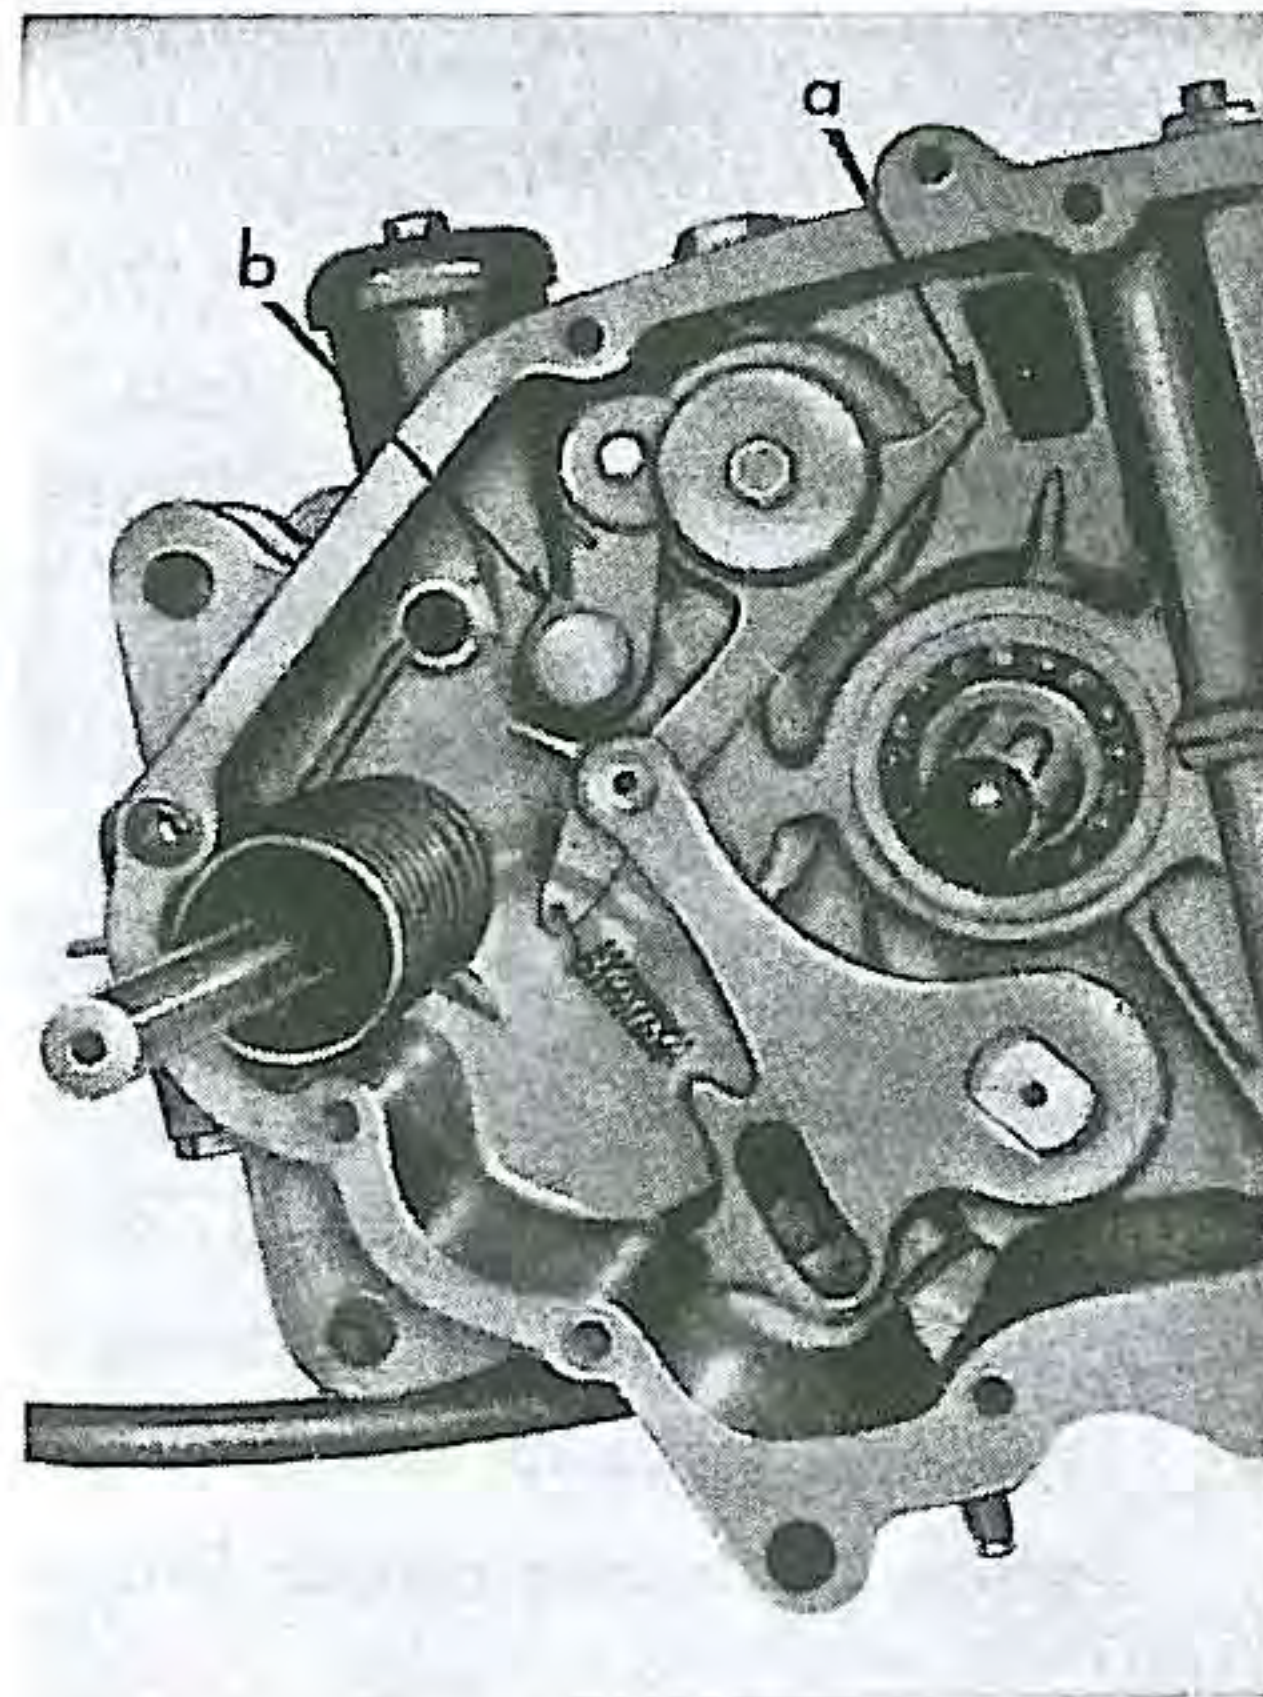
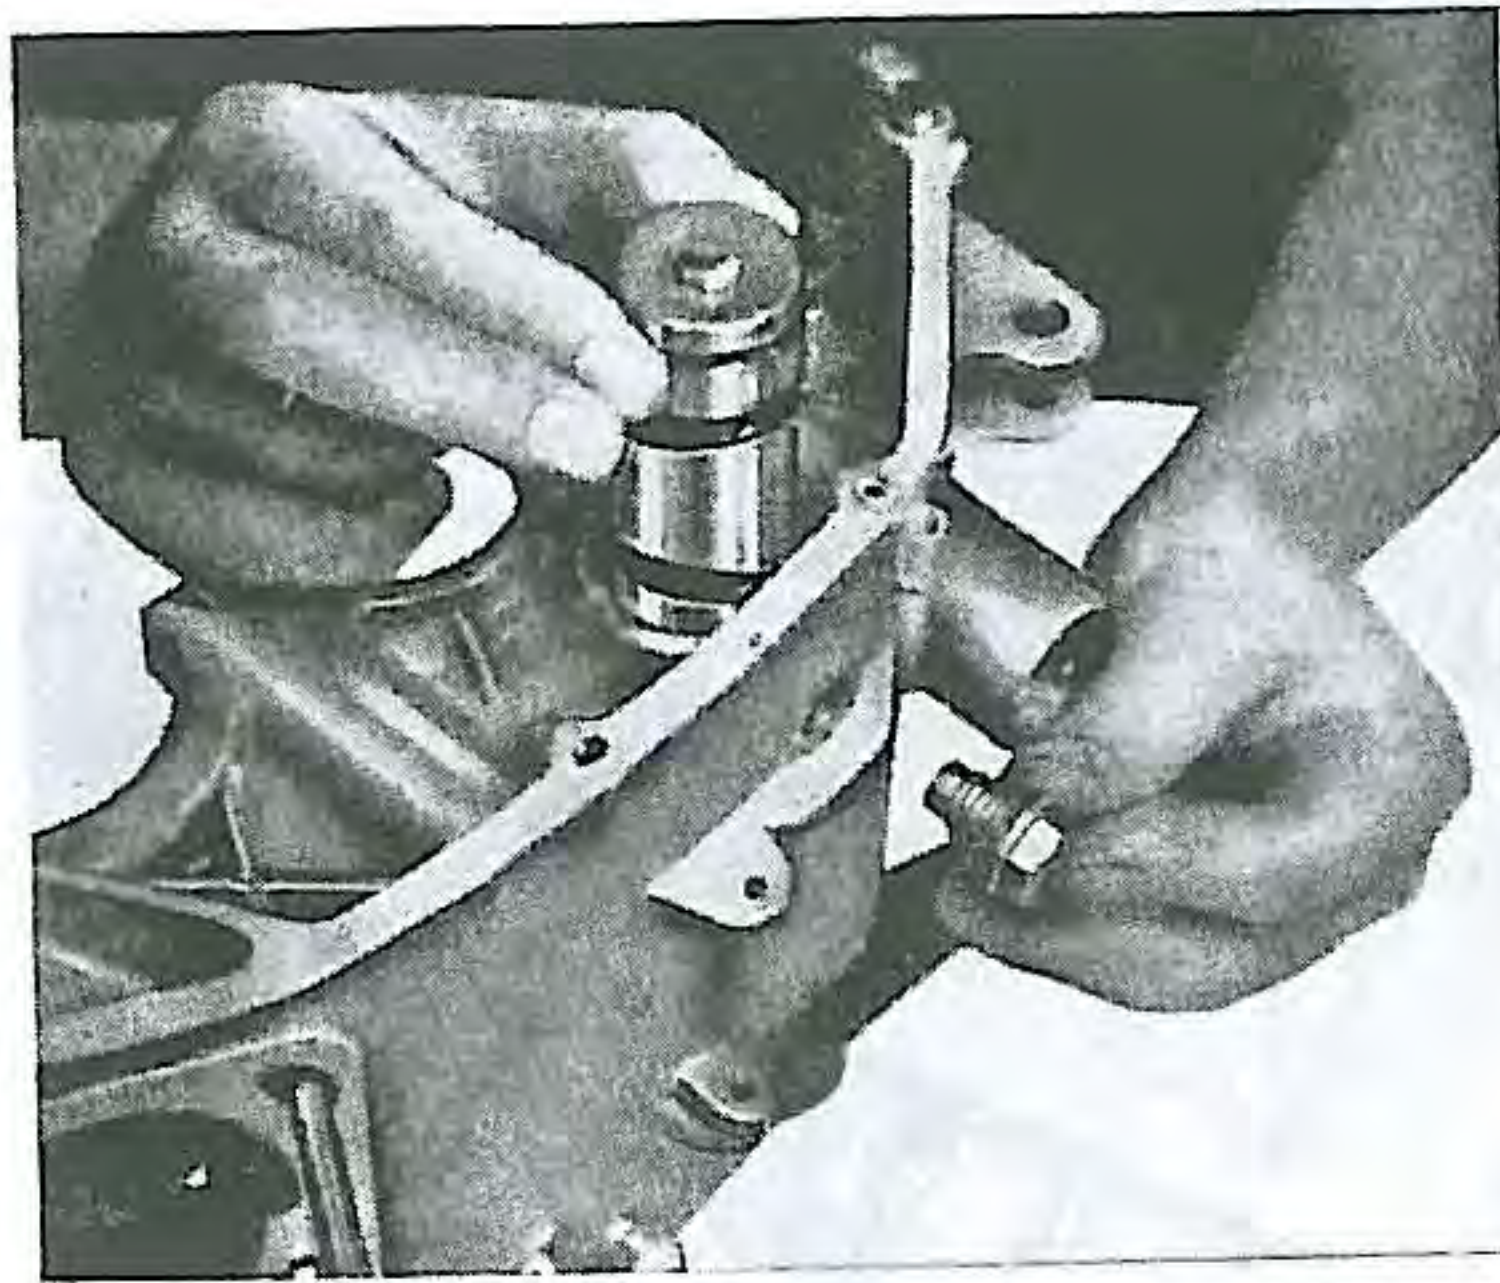
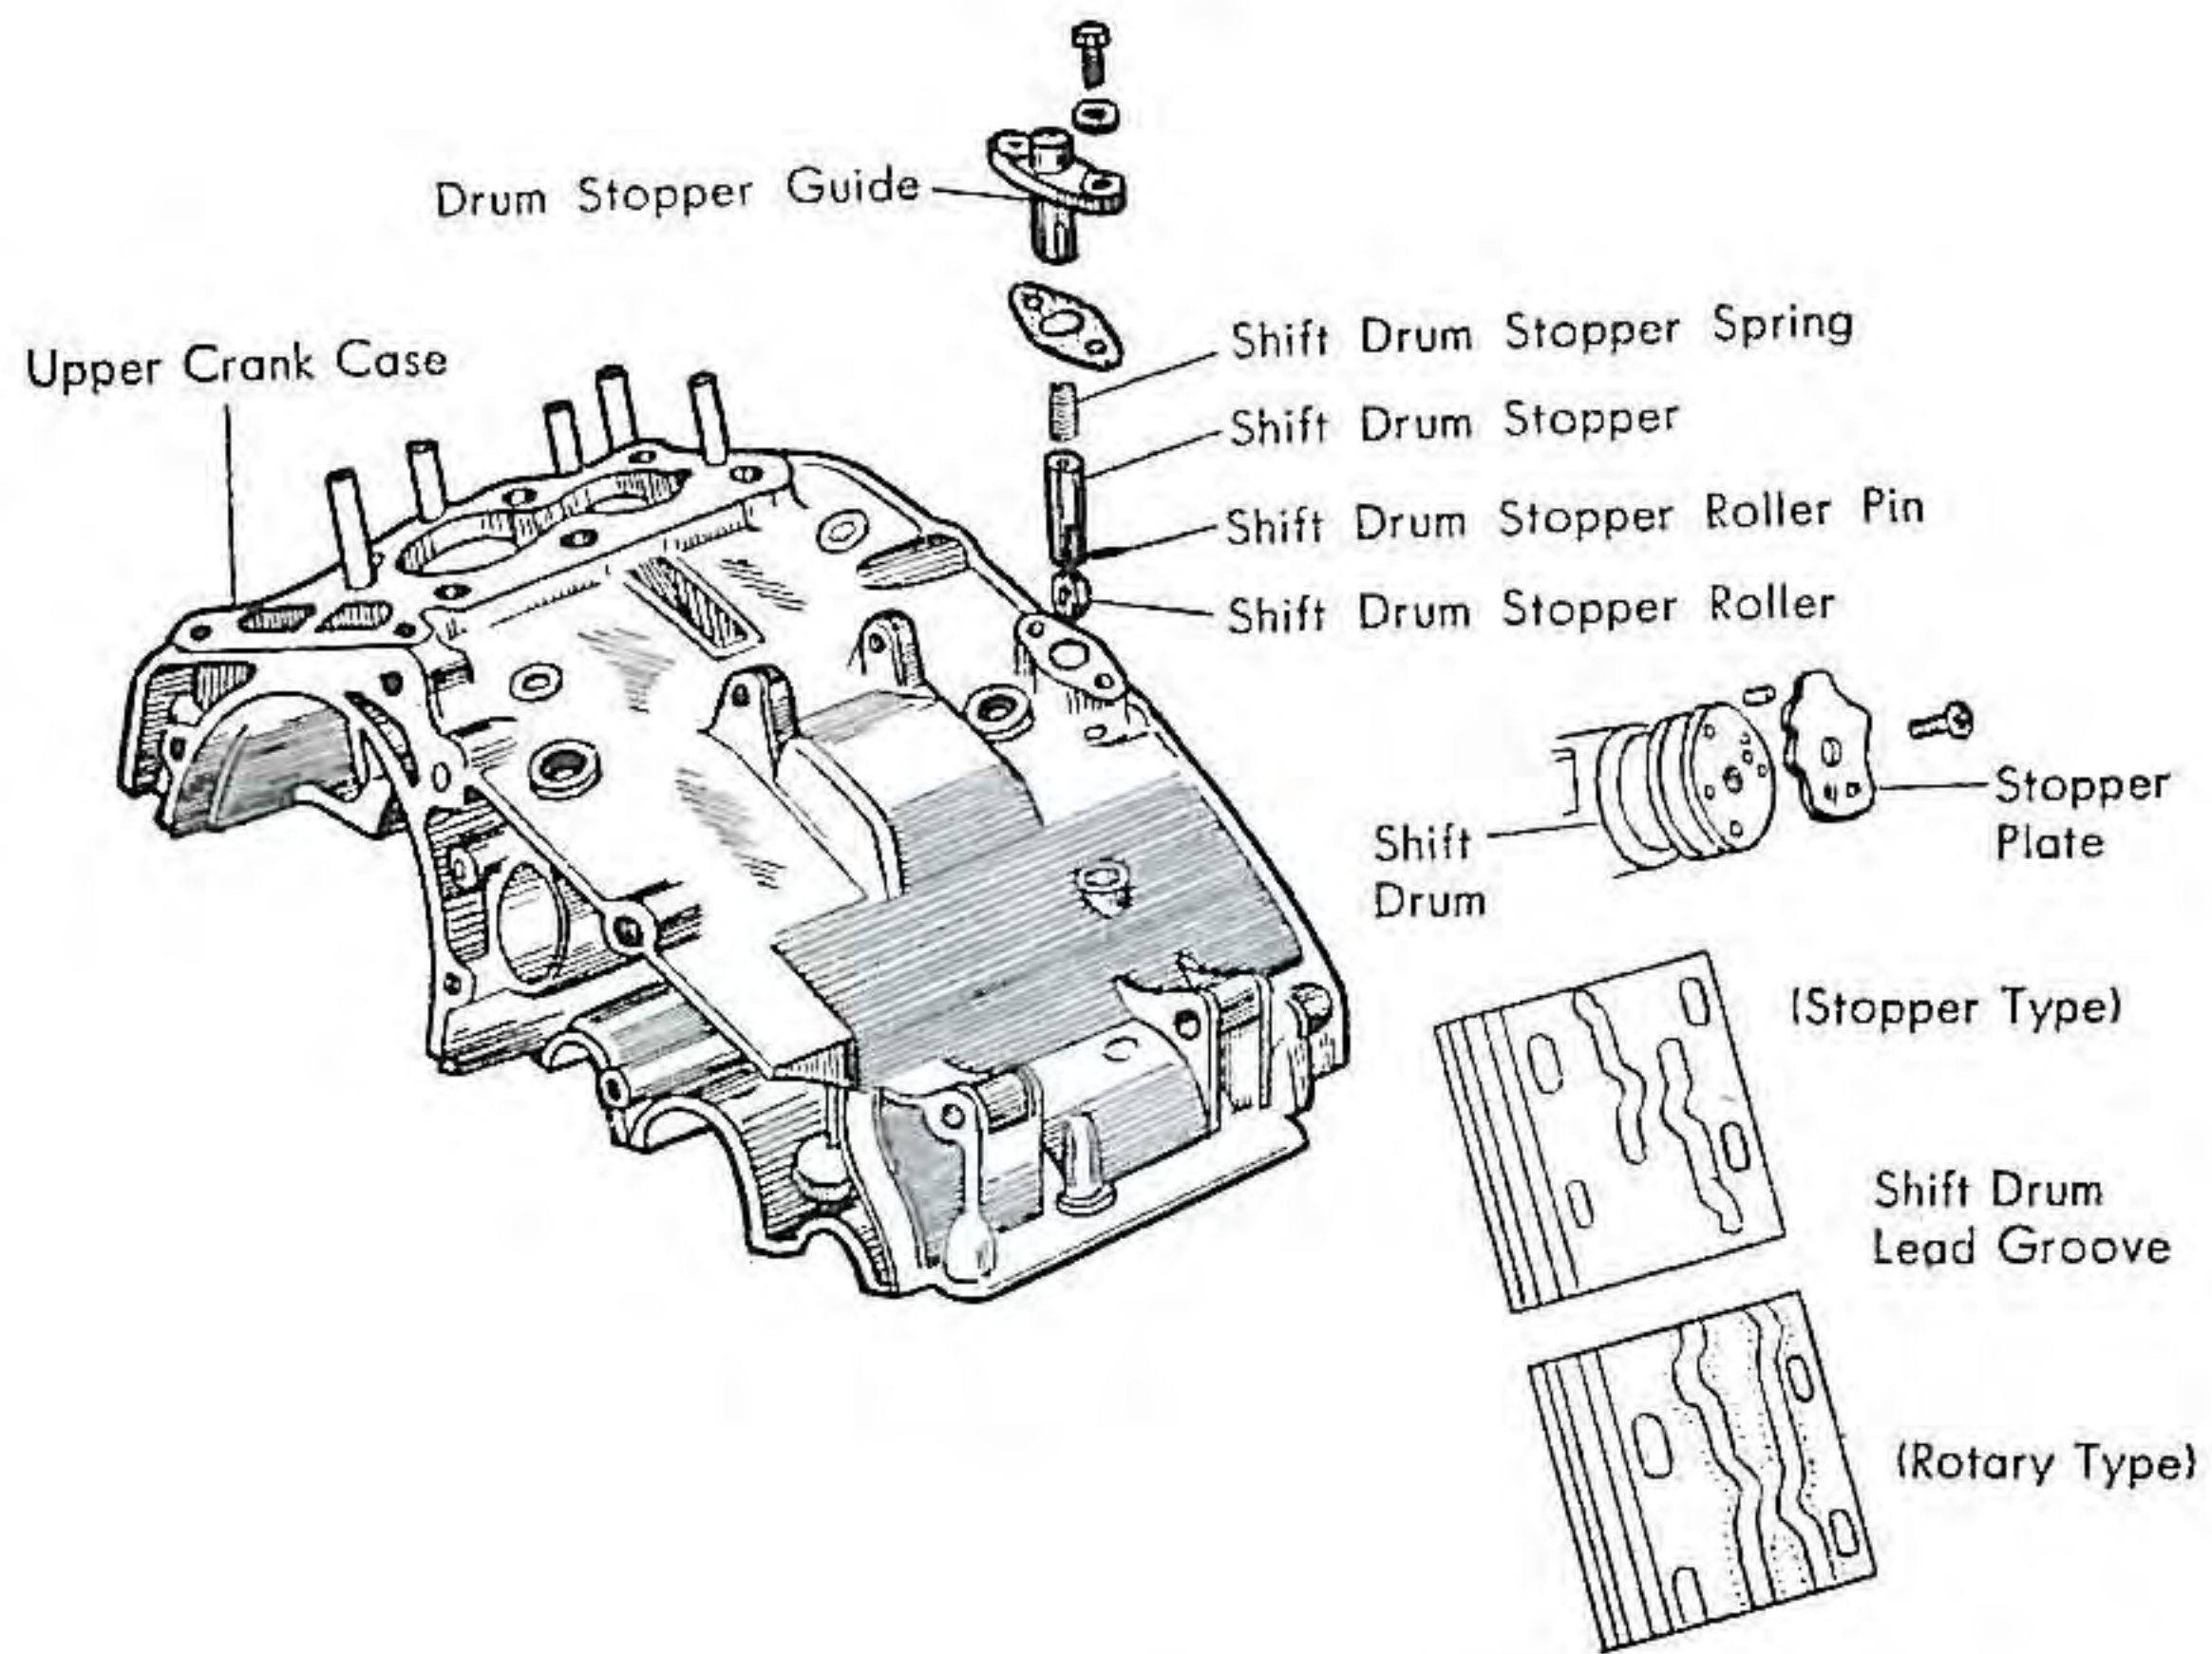

Fig. 91. Changing links
Fig. 92. Removing shift drum guide roller
Fig. 93. Removal of shift drum stopper roller (CB92 & CA95)
- (4) Remove the set ring on the left side of the change shaft. Then tap gently with wooden hammer on the serrated end of the gear shift spindle while depressing the gear shift arm link (a) until the projection of the link will not interfere with the gear shift arm guide. (Fig. 91)
- (5) Remove the shift stopper arm pivot bolt (b) and detach the stopper arm.
- (6) Remove shift drum guide, roller mounted, on the top of the crank case (Fig. 92) for standard model. Remove 2 bolts retaining shift drum guide screw and take out the guides. (CA95, CB92 and all export models for C92 after the engine number of C92E-12001) (Fig. 93)